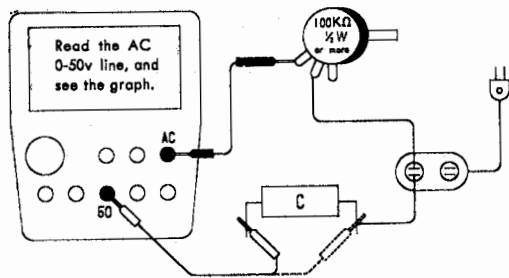

Fig. 7
- a. For the connections of the measuring elements, See Fig. 7 and 8.
- Note. (1) Use a proper graph curve depending on the cycles of the external power.
- (2) This measurement does not apply to checking polarized condensers.
- (3) Note the set position of the variable resistor or voltage regulator not to allow the meter overload.
- (4) C and L measurements are just available to know their approximate values.